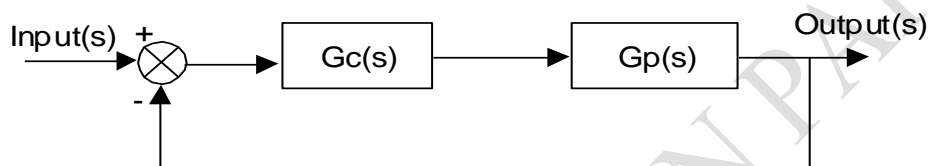

Figure Q4 A Mechatronic Control System
Figure Q4 shows a mechatronic control system, in which the
- (c) If a velocity feedback is introduced into the system of the Figure Q4 and the G_c is a Proportional controller ($K_i = K_d = 0$):